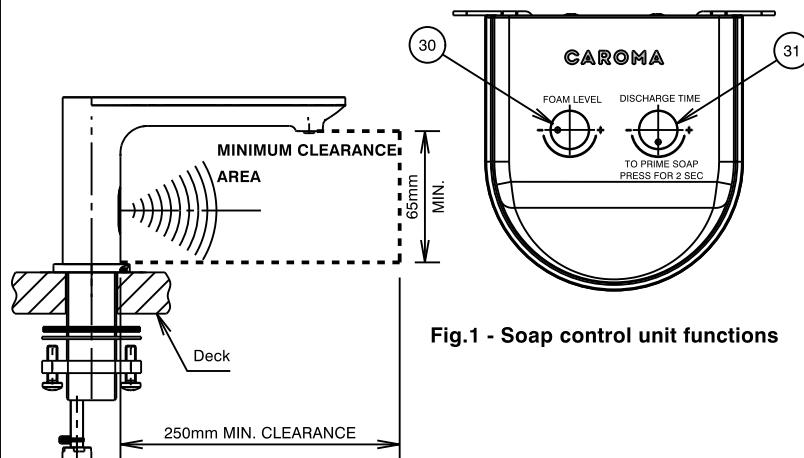

Fig.8 - Sensor minimum clearance area
- * The sensor window height is 18mm from the base and needs a clear space in front to operate properly as shown in Fig. 8. If the soap dispenser is to be installed behind an inset basin and the sensor window will be blocked, a matching riser piece can be purchased to raise the soap dispenser higher by 60mm.